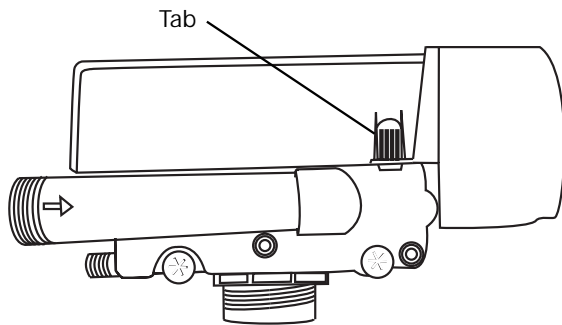

Figure 13
- Remove the rear cover by depressing the two tabs provided on the cover, (Figure 13). Lift the front of the cover and remove to expose the valve body.